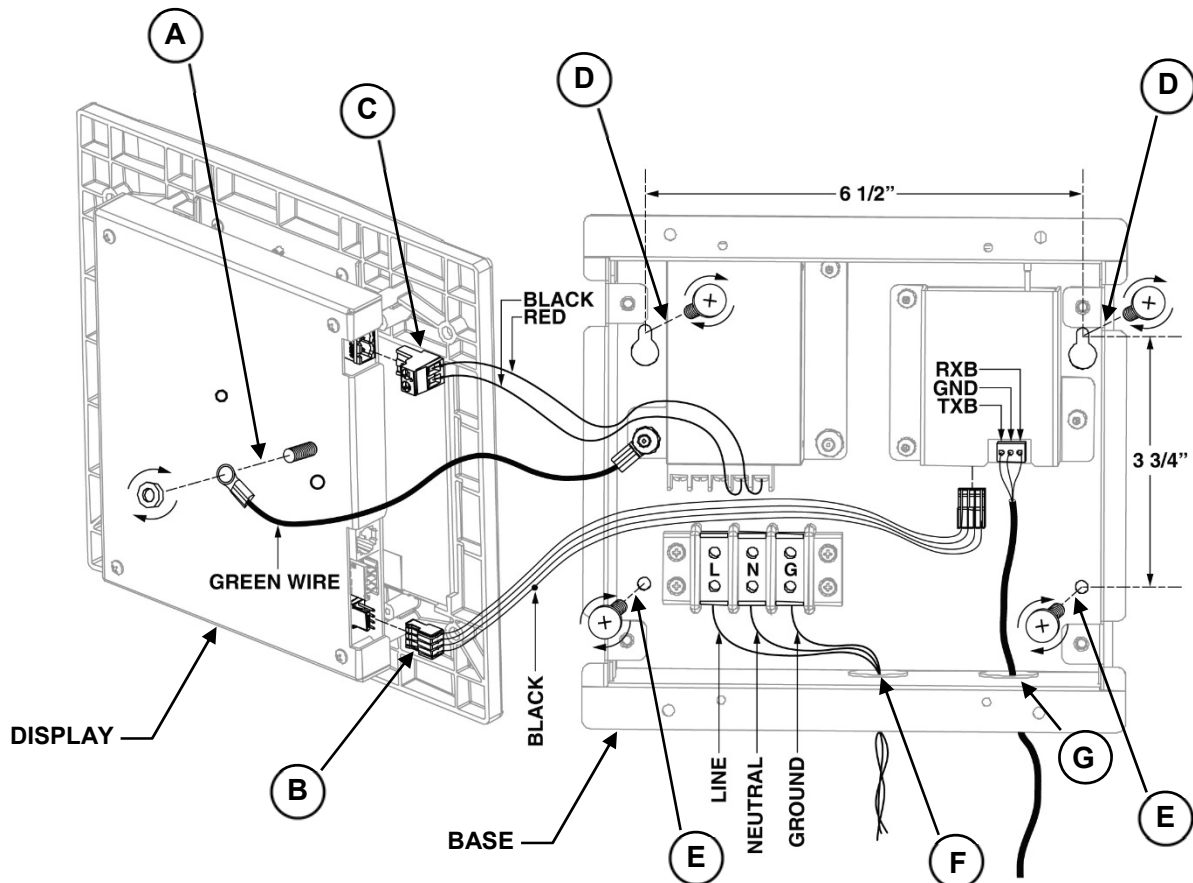

Figure 4.0
3. Disconnect the green wire (A) by loosening and removing the #10-32 nut and lock washer from the display shield.
4. Unplug connectors (B) and (C) to separate the display from the base.
5. Measure base mounting dimensions and fasten supplied wall anchors. Install screws for top two mounting holes (D) leaving a minimum of ¼ inch of thread exposed.
6. Mount the base onto top two screws (D) then tighten and secure.
7. Fasten two bottom screws (E) in base mounting holes and secure.
8. Bring power wires (100-240 VAC) through left preformed knockout (F) and secure on the terminal block as shown.
9. Bring low voltage RS-232 cable (**Quabbin 7325 or 3 conductor 22 AWG with shield**) through right preformed knockout (**G**) and secure to the terminal block (See Figure 4.0).